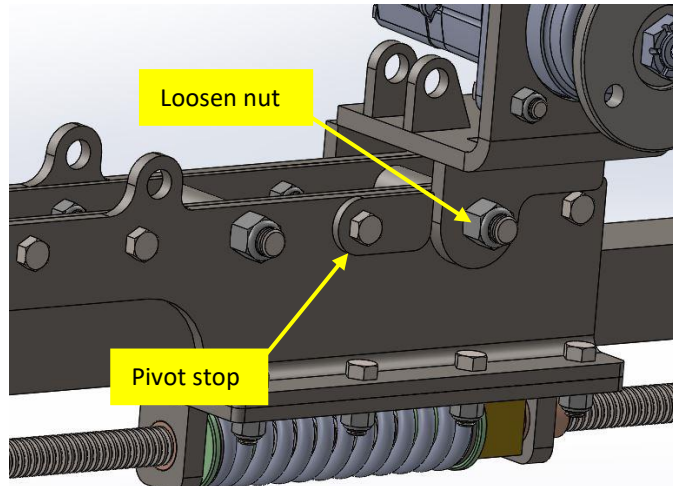

Figure 14
13. Where applicable, remove the motor bracket pivot stop and reinstall the bolt and nut holding it into place. Loosen the pivot bolt nut prior to removing the pivot stop to aid in removal. **Figure 14**